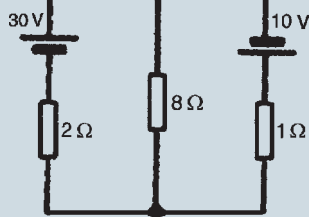

Figure 15.26
2. Use the superposition theorem to find the current in the 8Ω resistor of Fig. 15.26.